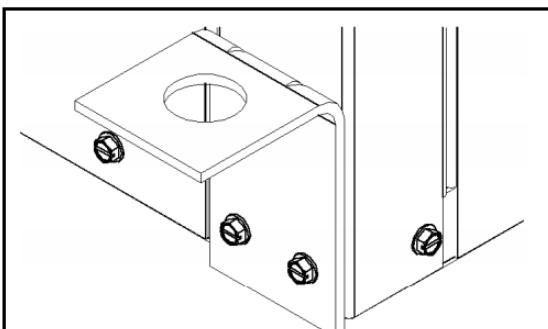

Fig. 7 — Mounting Brackets
2. Mount 4 brackets to unit corner post using the bolts provided in the kit, as shown in Fig. 7. DO NOT re-use the screws removed from the unit during Step 1 to mount the hanging brackets on the unit.